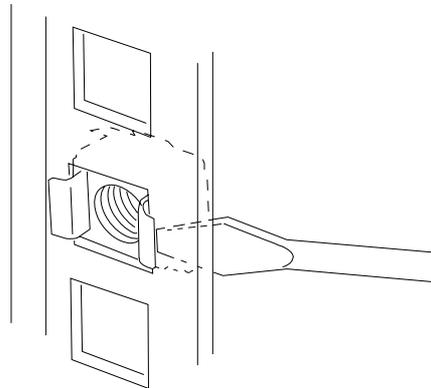

Figure 19: Inserting a caged nut
3. Insert two caged nuts (F) as shown in the figure above. One in the hole just above the support rail, the other one eight holes above. Insert the caged nuts in the front mounting rail as follows (*see "Figure 19: Inserting a caged nut"*):